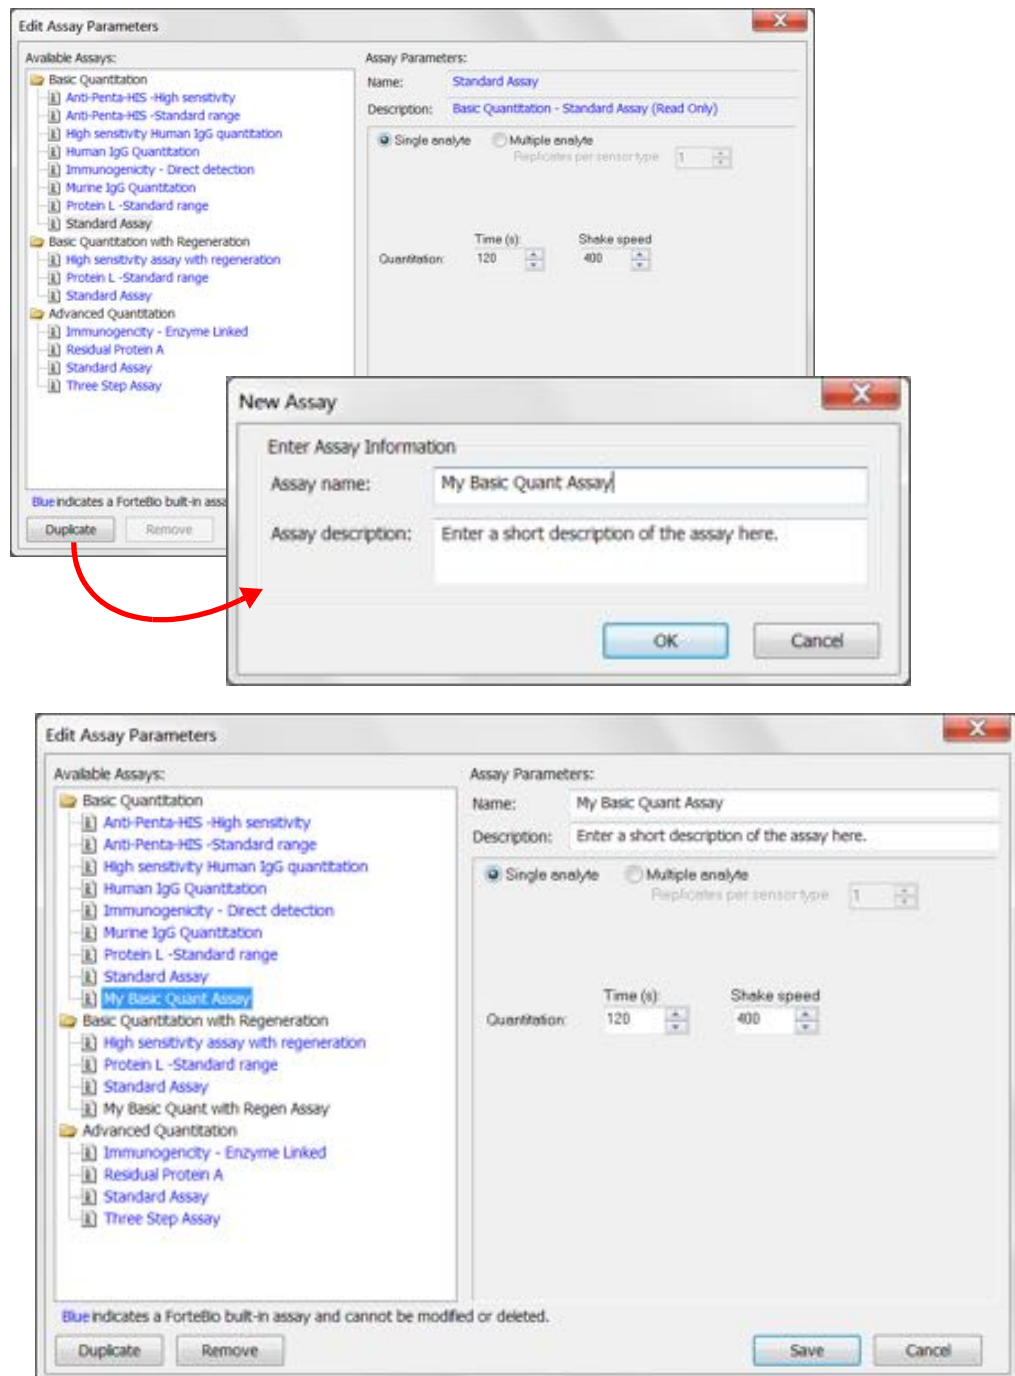

Figure 5-63: Defining a New Assay
4. In the **New Assay** dialog box (see Figure 5-63 top), enter an **Assay name**.
The new assay appears in the directory tree of available assays (see Figure 5-63 bottom).
1. In the **Edit Assay Parameters** dialog box, confirm that the new assay is selected in **Available Assays** (see Figure 5-63 bottom).